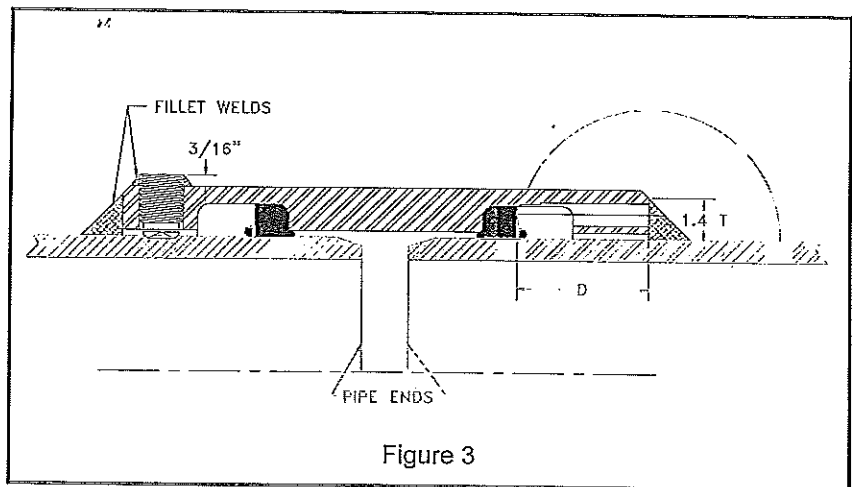

Figure 3
1. Measure and record dimension "D", as shown in Figure 3. This will be needed later if the Plidco Weld+Ends is welded to the pipe.
Dimension "D", as measured during the initial installation, may now be used to mark off locations "A" and "B", as shown in Figure 3. These locations are the same distance from the weld as the seal location "C". To prevent damage to the seals, monitor the heat generated by welding or preheating, particularly at location "A" and "B", by using temperature crayons or probe thermometers. If the heat generated approaches the temperature limit of the seal material which is indicated on the label and in the seal lubrication chart, welding should be discontinued or sequenced to another part of the fitting so that the affected area has a chance to cool.
2. Thrust screws should be cut or burned off flush. Start with the fillet weld to the pipe around circumference and include seal welding the thrust screws. (See Figure 3)
3. Cut or burn off clamp screws approximately 3/16" above the outside surface of the coupling and seal weld. One clamp screw near the top may be removed to serve as a vent while welding and also as a final test point for leakage. (See Figure 3)